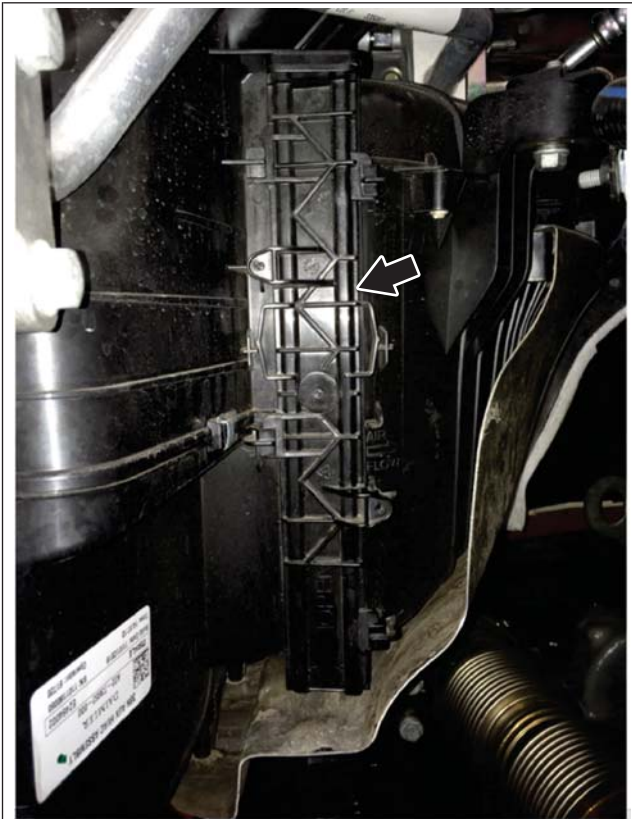

Fig. 2, Intake Filter Access Panel
3. Remove the intake filter access panel. Slide it down until it comes loose. See **Fig. 2**.